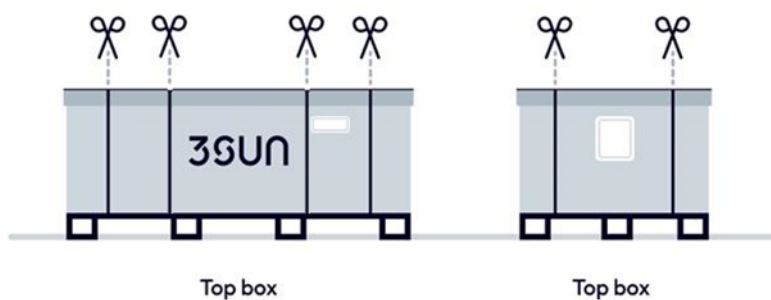

Figure 20: Top Box, outer box straps.
- a) Cut the outer box straps (Figure 20)